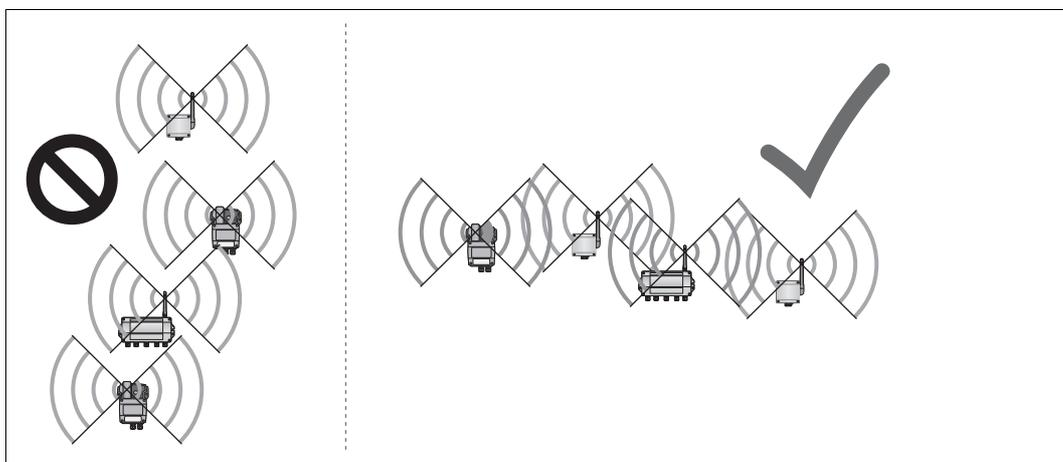

Figure 1.2 Poor positioning (left) and good positioning (right)
1. Install the adapter in a good location considering the propagation of the radio signal (see Figure 1.2 on page 5).
1. Install the temperature converter in a good location considering the propagation of the radio signal (see Figure 1.2 on page 5).